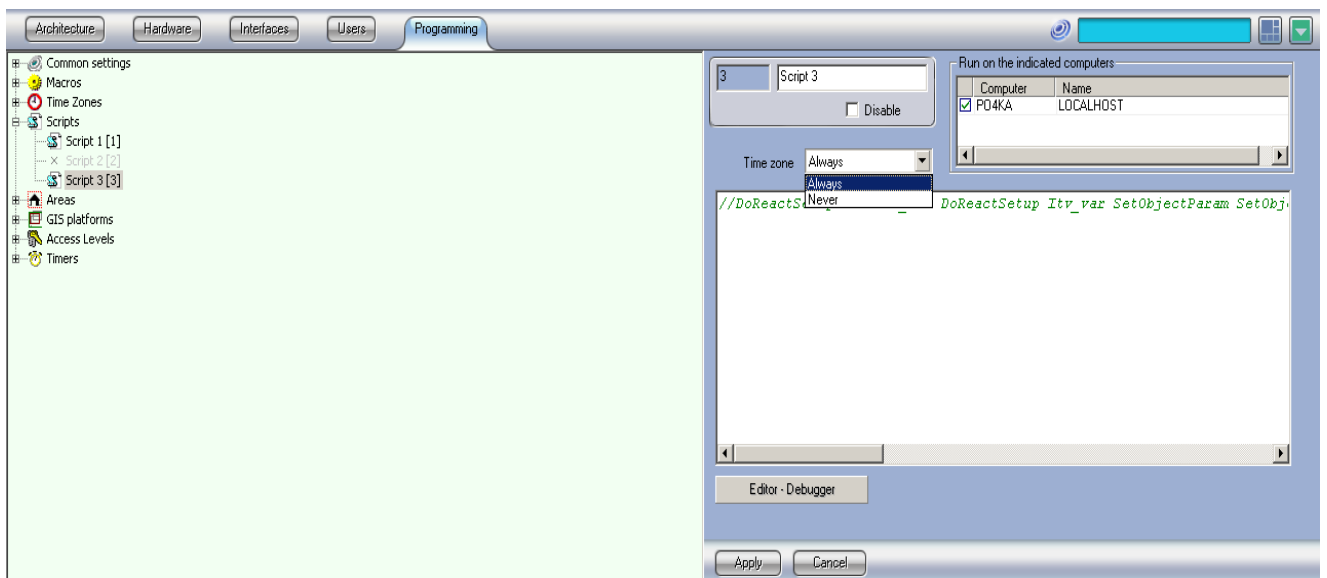

fig. 52
- Change the Scripts parameter "Time zone" change to "Always" (from the drop-down menu, fig. 52);